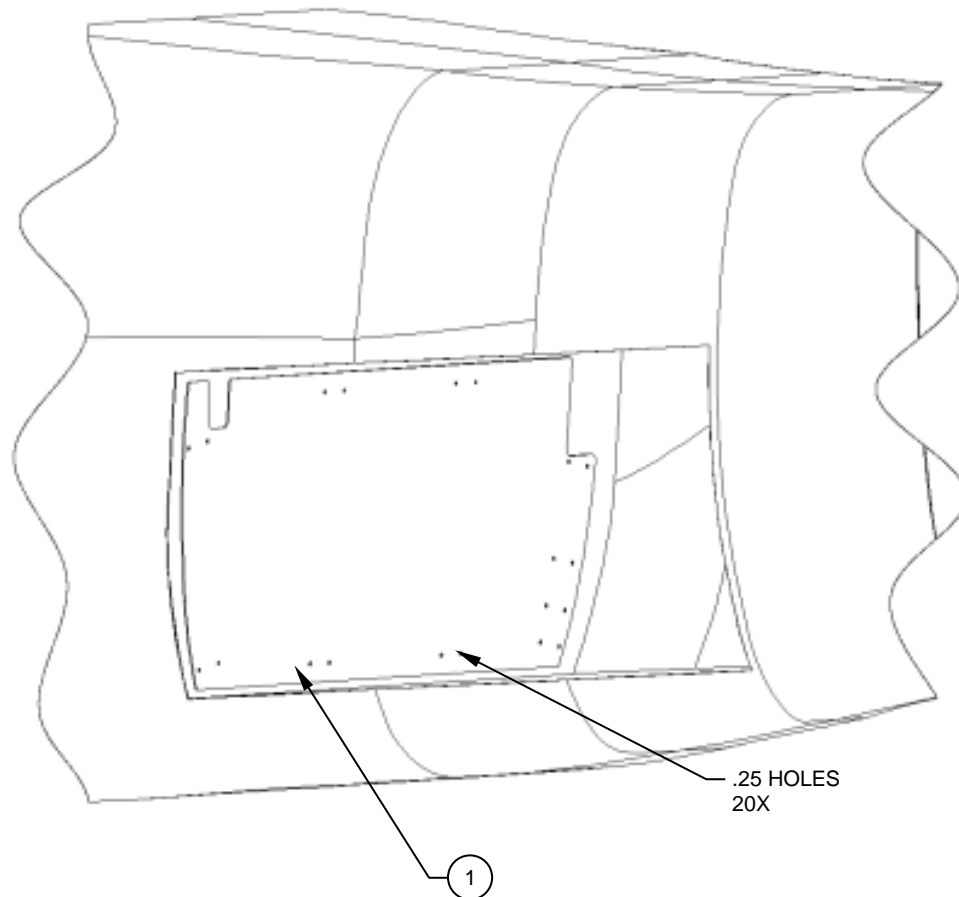

Figure 2
2. Pre-fit the Panel, Assy (Item 1) by lining up the exterior profile of the Panel, Assy (Item1), with the bulkhead panel. Reference Figure 2.
3. With the panel lined up use the pre-cut .25 holes and a felt pen to mark out the locations for the Velcro, Details (Items 6, 7, 8 & 9) and remove the Panel, Assy (Item 1). Reference Figure 2.